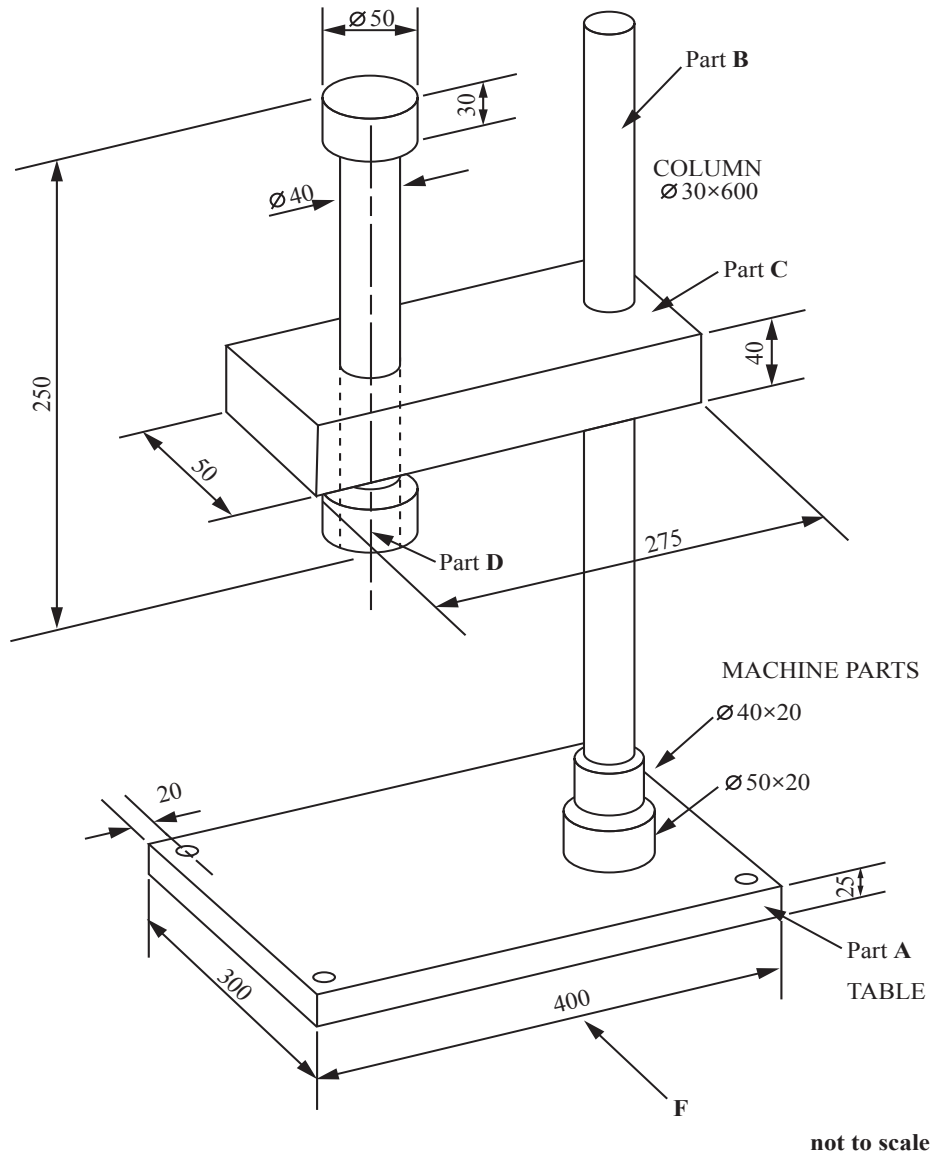

Fig 9 Light Duty Press Stand
- 9** Fig 9 shows an incomplete design of a Light Duty Press Stand.
Part D should slide up and down through **Part C** as the press is fed or lifted. **Part D** should be fitted with a quick release mechanism. (see Fig 9)
- 10** Draw to a scale of **1:2** in First Angle projection the following views of the fully Assembled Light Duty Press stand in Fig 9 including your solutions to the design problems.
- (a) Front elevation in the direction of arrow **F**. With the centre of **Part C** **300 mm** above the top of the table as shown on Fig.9. [5]